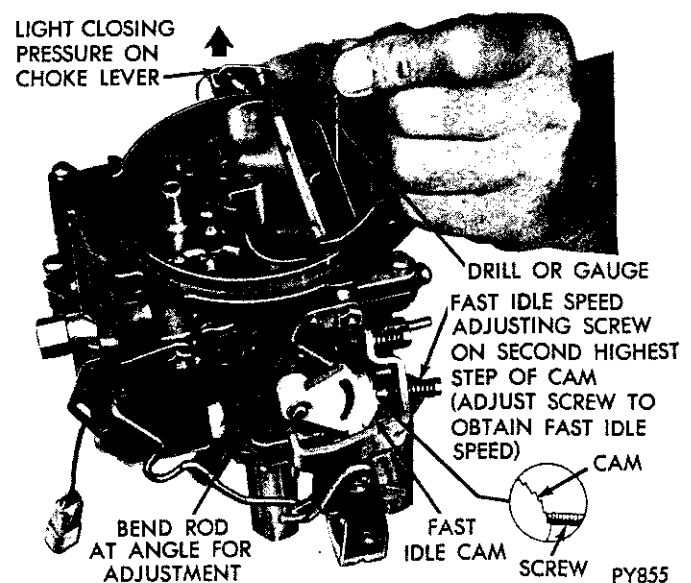

Fig. 21—Fast Idle Speed and Cam Position Adjustment
(1) With fast idle speed adjusting screw contacting second highest speed step on the fast idle cam, move choke valve toward closed position with light pressure on choke shaft lever.
(2) Insert specified drill (see Specifications) between top of choke valve and wall of air horn. (Fig. 21). An adjustment will be necessary if a slight drag is not obtained as drill shank is being removed.
(3) If an adjustment is necessary, bend fast idle connector rod at angle, using Tool T109-213, until correct valve opening has been obtained.
These five AVS carburetors are equipped with a distributor ground switch, which retards the distributor when the carburetor is at idle, for better emission control. The idle speed solenoid which is mounted on these carburetors, (Fig. 21) is used to maintain a higher idle speed when the vehicle is running and allows